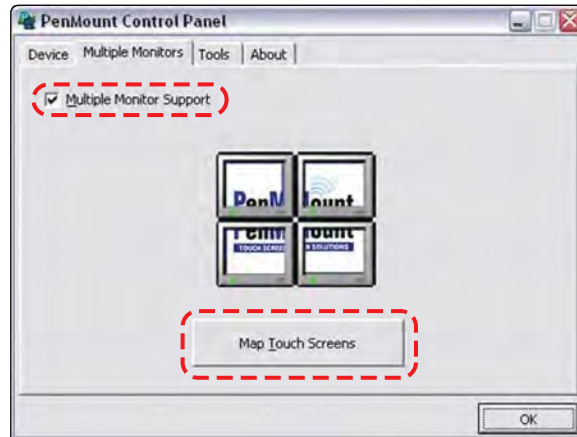

Figure 16-5 Sample Multiple Monitors tab
4. With the **Multiple Monitor Support** box checked, select the **Map Touch Screens** icon (Figure 16-5).